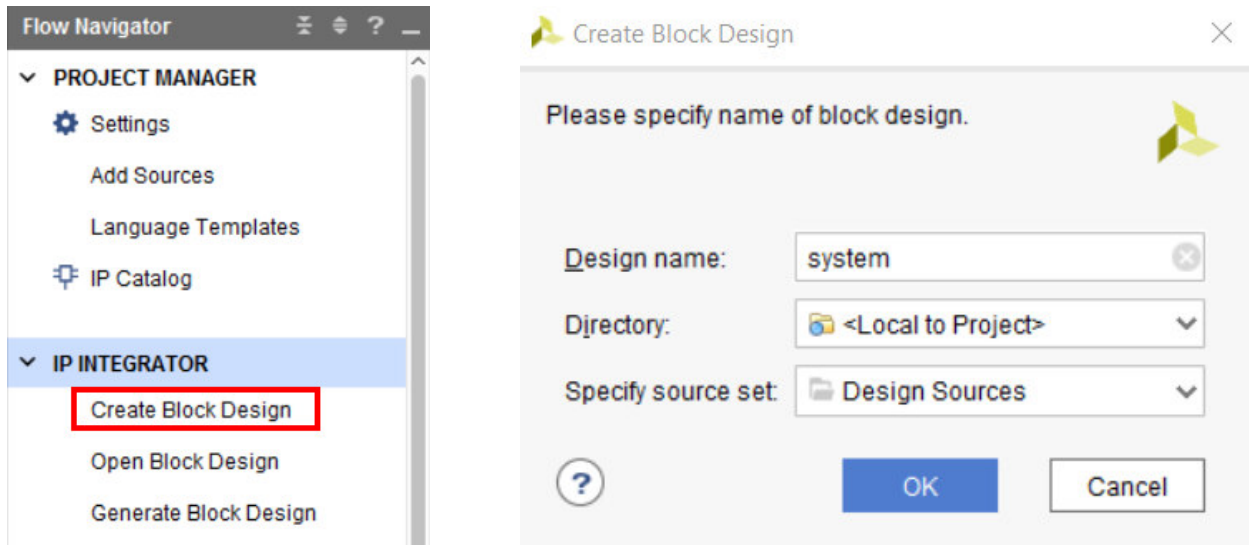

Figure 3: Creating a new block design
2. In previous labs, this is where we would create a new Verilog module. Instead, you will use the IP Integrator to create a new Block Design named “**system**” as shown in Figure 3.